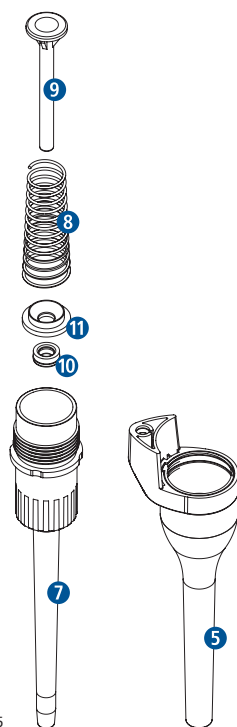

Fig. 5
- Remove the spring **8** and piston **9** (Fig. 5).
- Remove the spacer ring **11** (only 100µl, 200µl and 1000µl models) (Fig. 5).